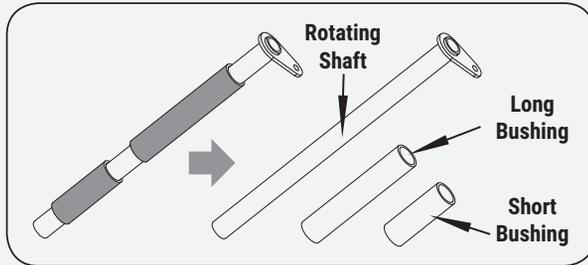

Figure 21a
1. Remove the long bushing and short bushing from the rotating shaft before assembly. (See **Figure 21a.**)